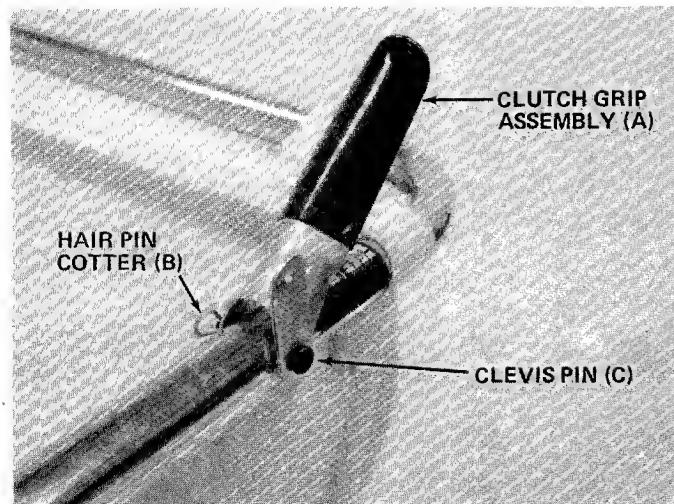

FIGURE 8.
6. Assemble the clutch grip (A) to the left hand side of upper handle. Secure in place with clevis pin (C) and hair pin cotter (B). See figure 8. Head of clevis pin should be to the outside of handle.